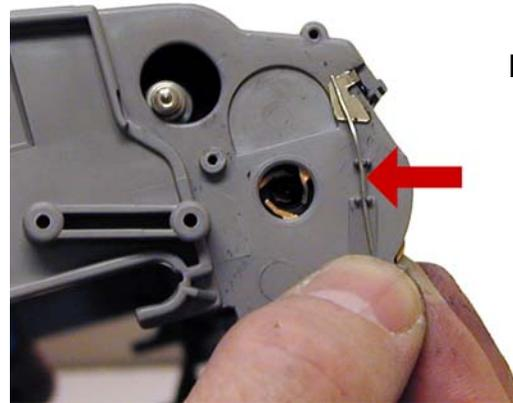

Figure 36
31) Install the metal wire contact. See **Figure 36**